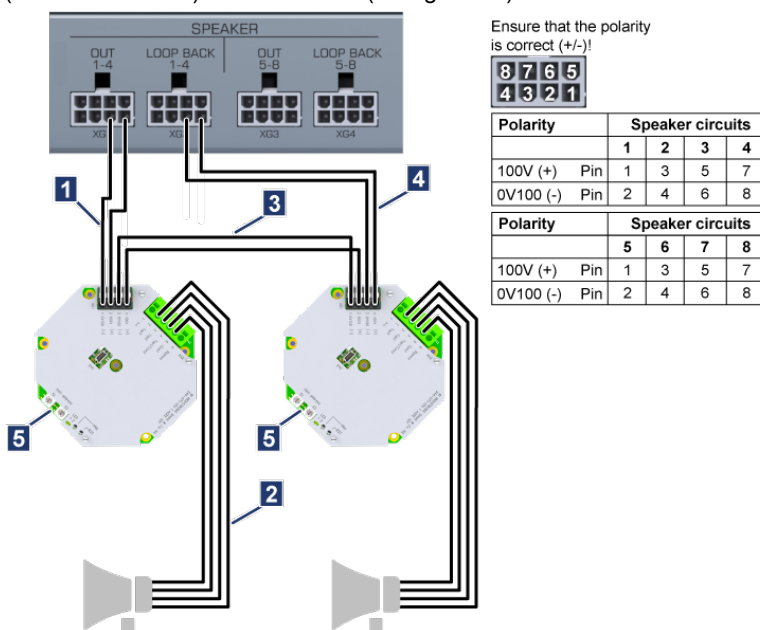

Fig. 6-4: Loop cabling of speakers (example)
1. Connect the cables into the terminal *XG1* (*OUT 1-4*) or *XG3* (*OUT 5-8*) on the module and into terminal *XG1* on the remote electronics (→ Fig. 6-4/1). Ensure that the polarity is correct (+/-).
2. Connect the cables from the speaker to the terminal *XG2* on the remote electronics module (→ Fig. 6-4/2).
5. For each remote electronics, set the correct unit address *S1* and *S2* to ensure that the address is unique within in the speaker loop (→ Fig. 6-4/5).